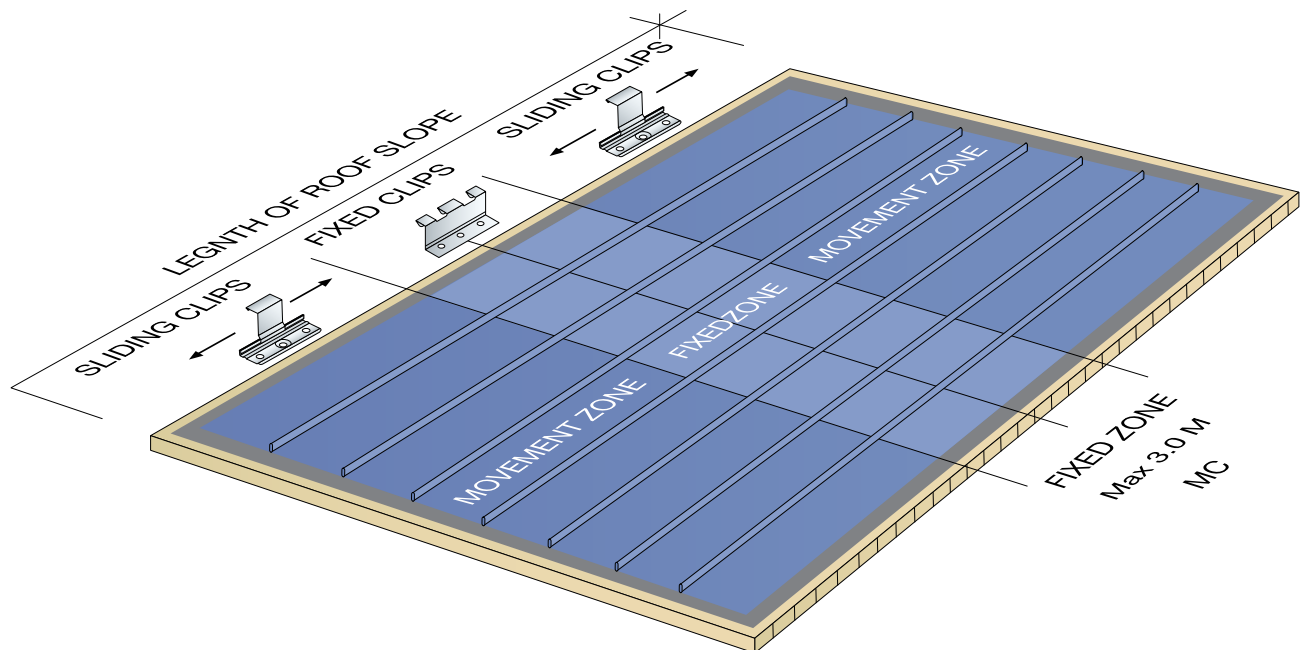

Figure 1. The thermal movement is assumed to start from a fixed zone (MC).
Within the temperature interval $-20 - -30^{\circ}\text{C}$ to $+70 - 80^{\circ}\text{C}$, it is reasonable to assume that steel has an approximate movement of 1mm/meter and copper, aluminum and titan-zink about 2mm/meter. The movement is presumed to start from a fixed zone (MC), figure 1.